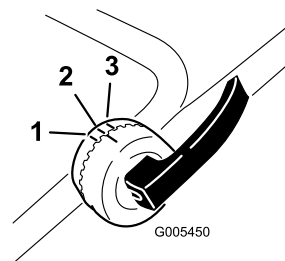

Figure 4
2. To adjust the handle height, unlock the upper handle locks and rotate the upper handle upward and lock it into a position that is comfortable for you (Figure 4).
Note: You can set the upper handle to 1 of 3 handle positions. Line up the mark to one of the 3 marks on the inner side of the upper handle locks (Figure 4).